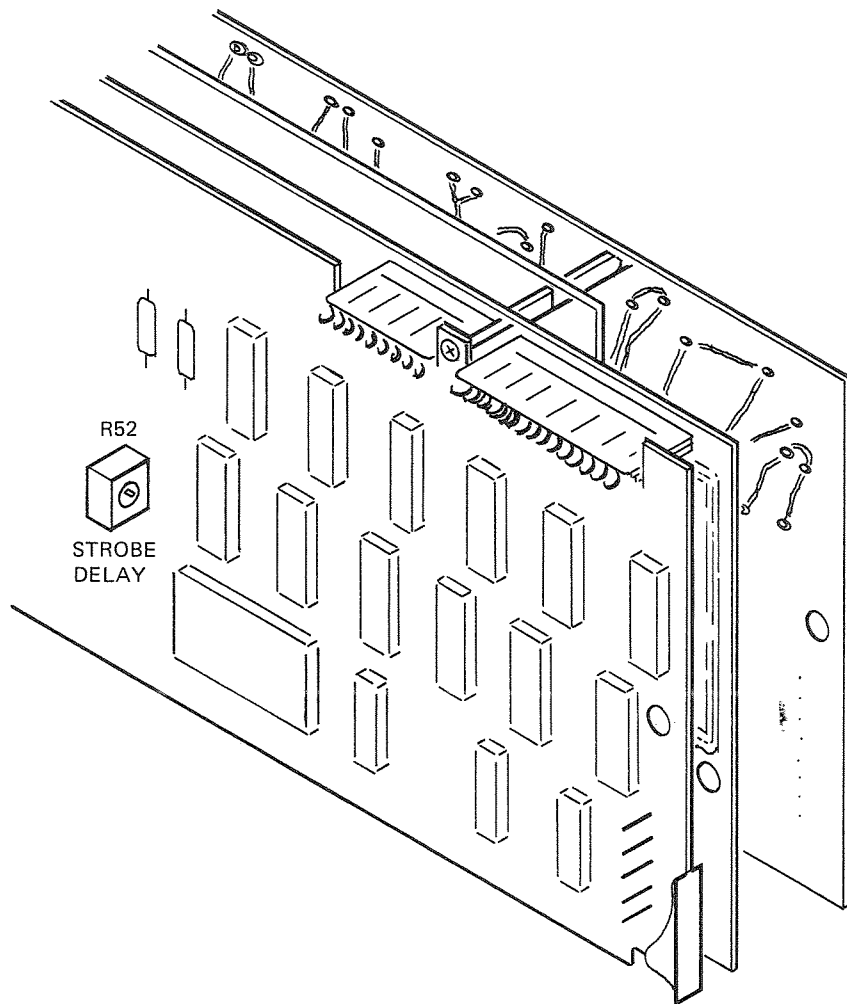

Fig. 11. Location of STROBE DELAY (R52) adjustment on the Memory Controller & Address Driver board.
13. Adjust STROBE DELAY (R52) slowly counter-clockwise (CCW) until Data Bit dropping just starts to occur, or until the CCW limit of the control is reached. (The STROBE DELAY adjustment is located on the Memory Controller & Address Driver board, approximately 5 inches back from the front edge, and approximately 1½ inches up from the bottom edge. Fig. 11 shows the location).